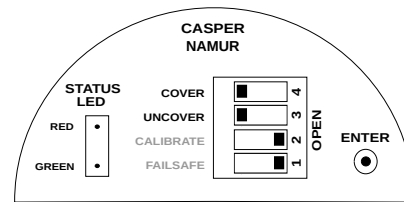

Figure 24: Switch Position Low Current Configuration
- Set the COVER and UNCOVER switch to CLOSE position as per Figure 24.